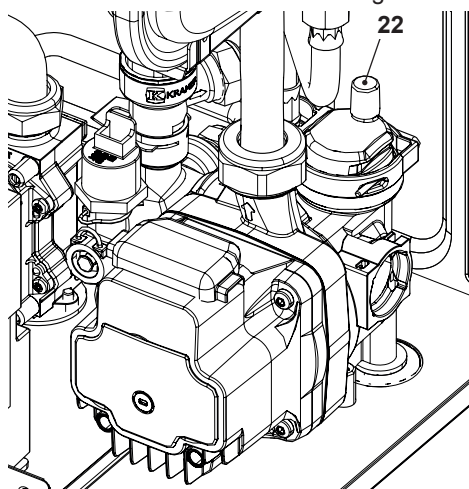

Fig. 10.12
- To make draining easier, lift the plug 22 of the automatic relief valve in Fig. 10.12.